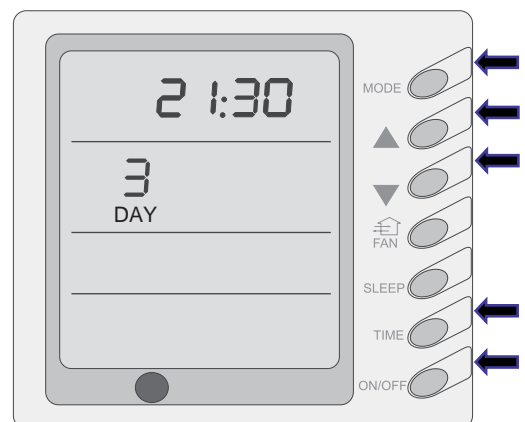

fig 20
- ❖ If entered into “Timer setting” by pressing the “Mode” button to select the setting item: Day (Monday to Sunday), Hours (0~23) or Minutes (0~59); By pressing “▲”、“▼” buttons to adjust the setting items, then press “Timer” button to confirm, or press the “Timer” button once more to cancel the setting; After the setting confirmed, the character on displayer will not blink, it can not be setup; When cancel the confirmation, there are figure blink, it can be set up, finally press the “ON/OFF” button complete the setting and quit, the timer data will be save. (Fig. 20)